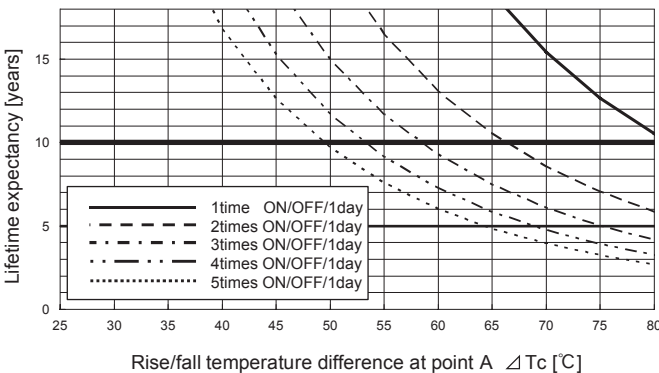
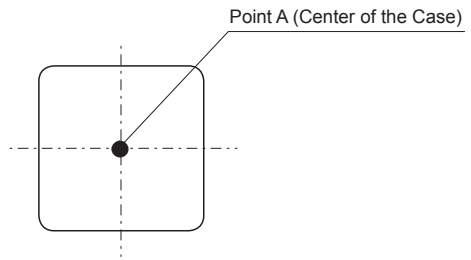

Fig.12.1 Lifetime expectancy against rise/fall temperature difference
Fig.12.2 Temperature measuring point (Top View)
- Product lifetime expectancy depends on case temperature difference ( $\Delta T_c$ ) and number of cycling in a day is shown in Fig.12.1 (It is calculated based on our accelerated process test result.) If case temperature changes frequently by changing output load factor etc., the above the lifetime expectancy design should be applied as well. And point A which is shown in Fig.12.2 must keep below 105°C.
- The warranty period is basically 10 years, however it depends on the lifetime expectancy which is shown in Fig.12.1 if it is less than 10 years.